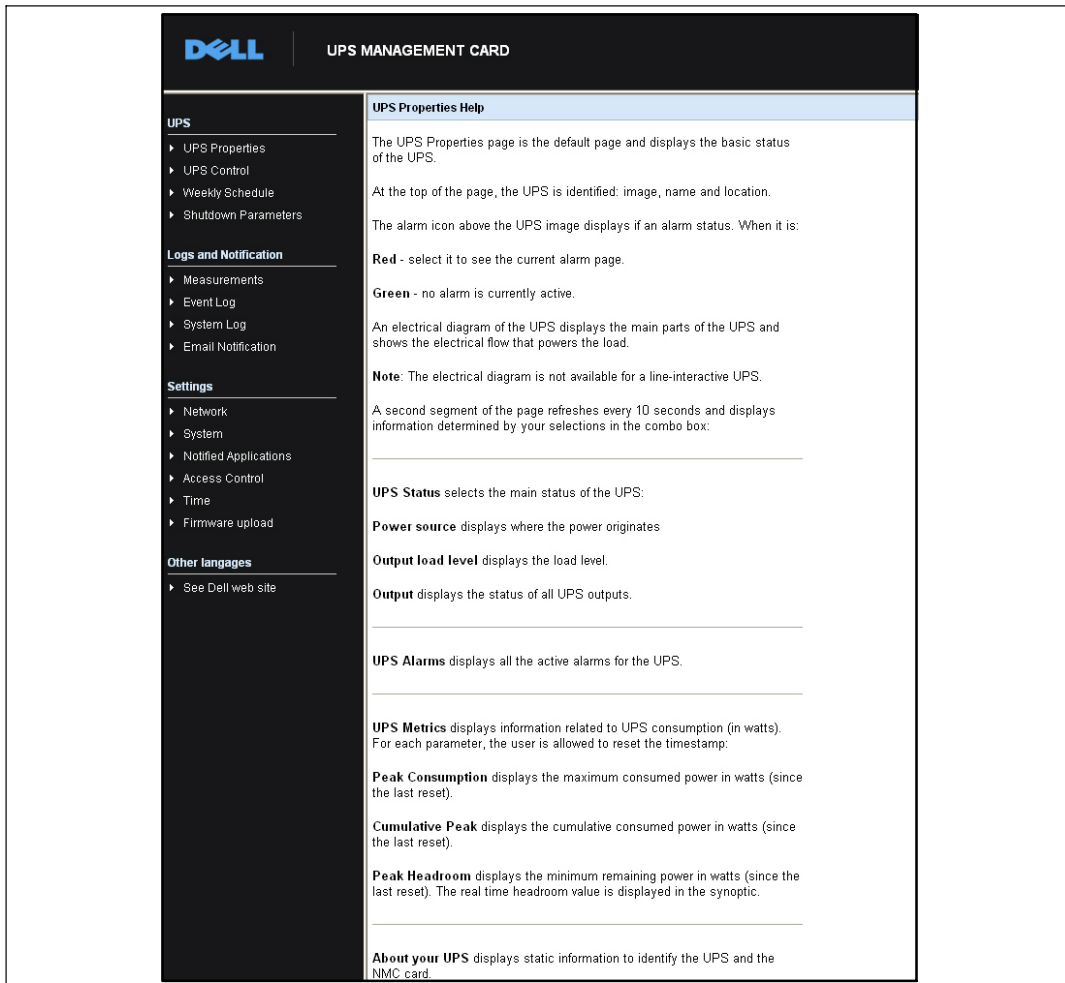

Figure 15. Online Help Example
- 1 Click **Help**. The Help page opens(see Figure 15).